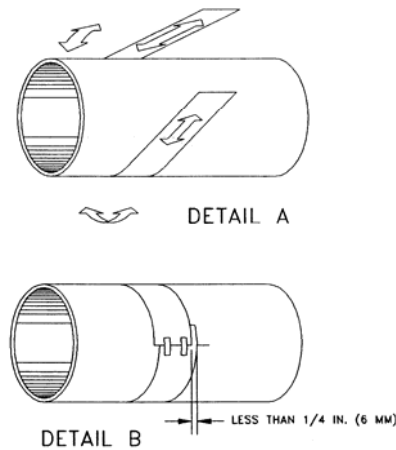

Figure 2.6 Paper Template Alignment
1. Wrap paper around pipe as shown in **Figure 2.6**. Align the paper ends to within 0.25 inches (6mm).